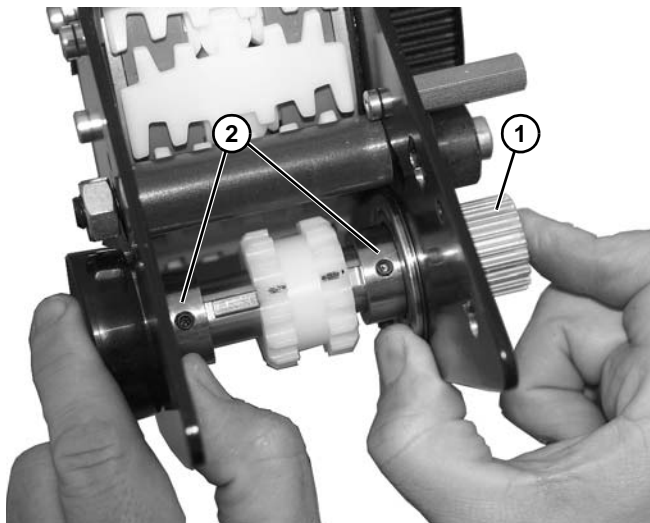

Figure 137
1. Install drive shaft (Figure 137, item 1) on two bearings (Figure 137, item 2) and press outward as shown.